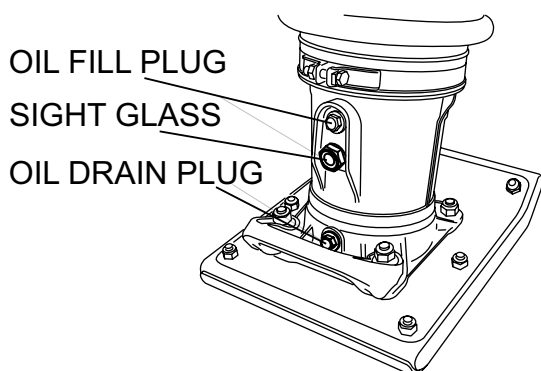

Figure 3. Foot Housing Sight Glass
5. Check the oil level through the oil level sight glass (Figure 3) at the rear of the tamper foot.
6. If oil is not visible, add 10W-30 SE, SF or higher grade motor oil into the oil fill plug opening (Figure 3). The bath contains approximately 0.8 pints (0.4 liters)